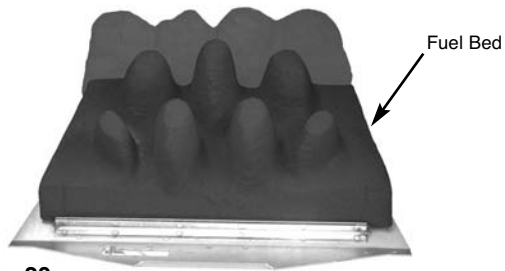

Fig. 20
2. Place the main fuel bed on to the middle section of the metal burner tray. It is important that the front edge of the fuel bed is located behind the burner strip (Fig. 20).